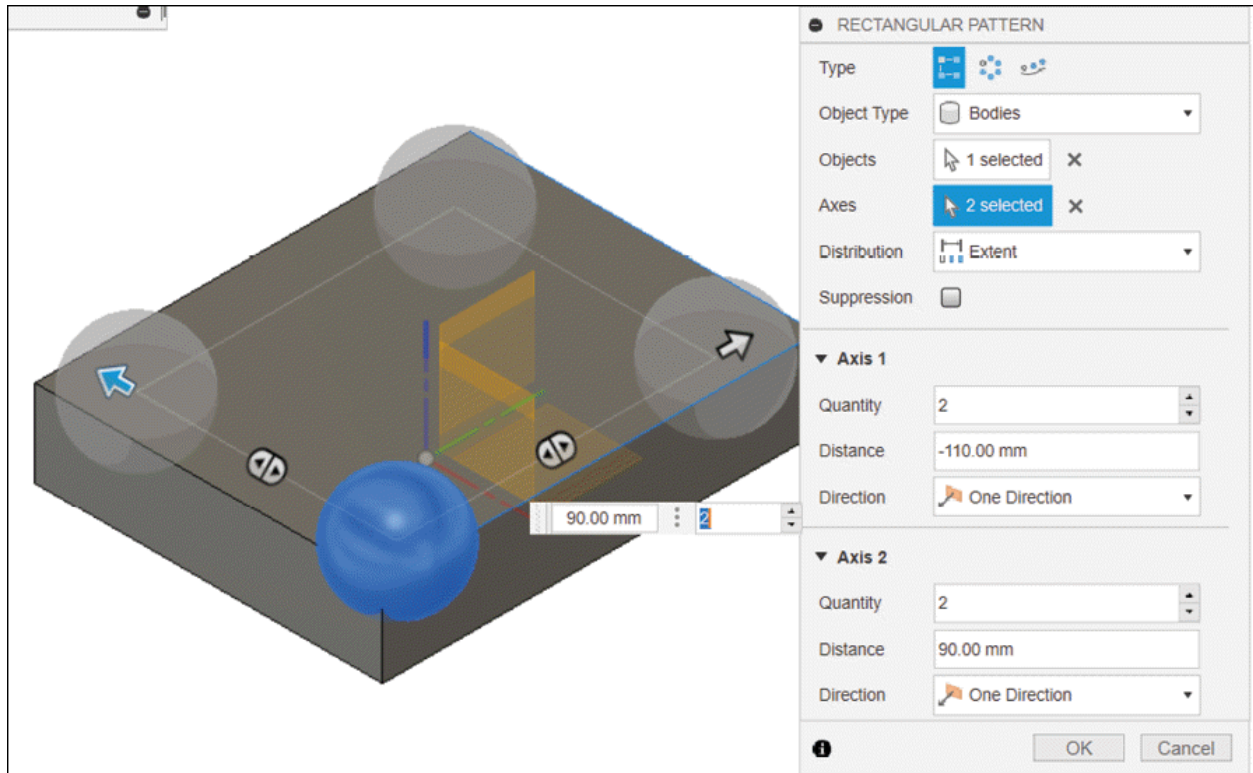

Figure-91. Selection of direction
- Click on **Select** button of **Axes** option and select the default axes or edges of the model to define direction in which copies will be created; refer to Figure-91.